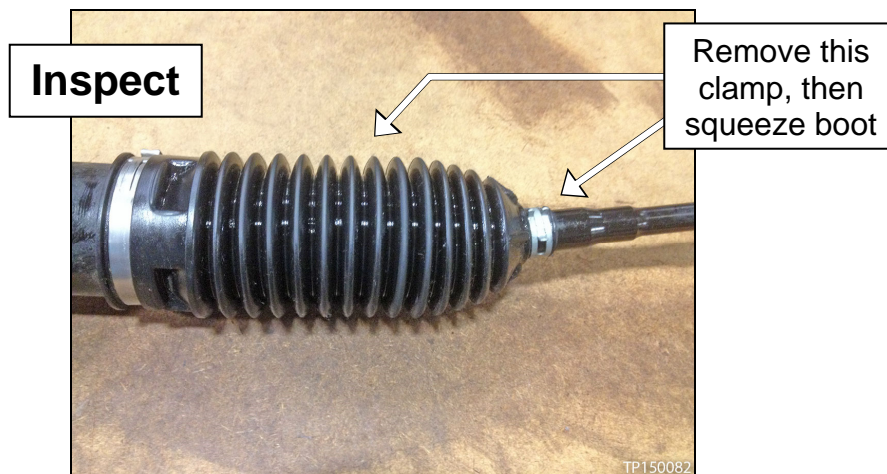

Figure 7: Example of a possible leak inside a boot. Fluid permeates the boot, giving it a dark, shiny black appearance. Feels soft to the touch.
5. If a boot appears similar to the example in Figure 7 below, the steering rack may be leaking.
6. Remove the small clamp, and then squeeze the boot (see Figure 7).